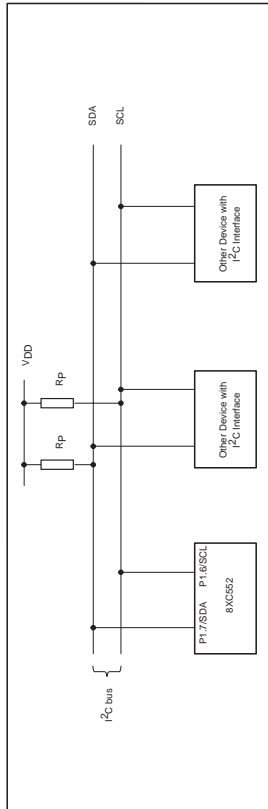

Figure 10. Typical I²C Bus Configuration
A typical I²C bus configuration is shown in Figure 10, and Figure 11 shows how a data transfer is accomplished on the bus. Depending on the state of the direction bit (RW), two types of data transfers are possible on the I²C bus: